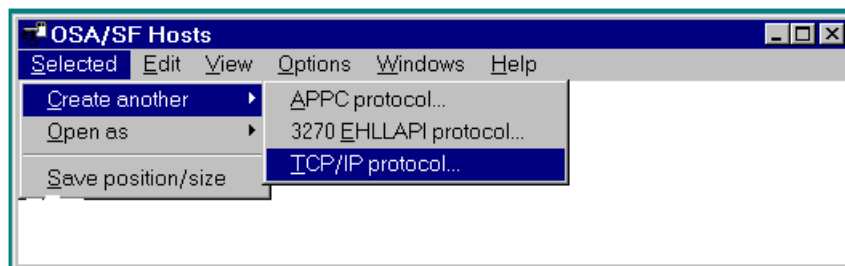

Figure 4-3 TCP/IP connection
2. Create an icon for the environment to be monitored, as shown in Figure 4-3.